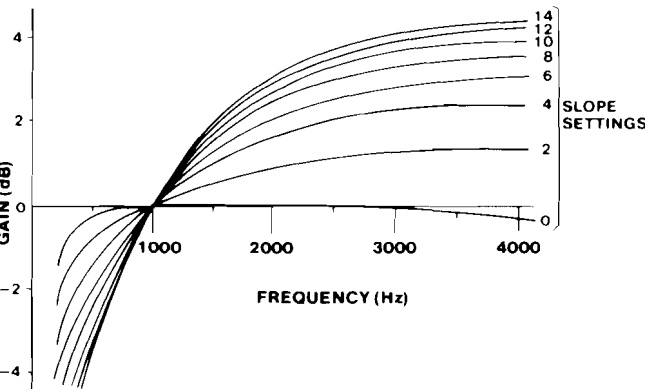
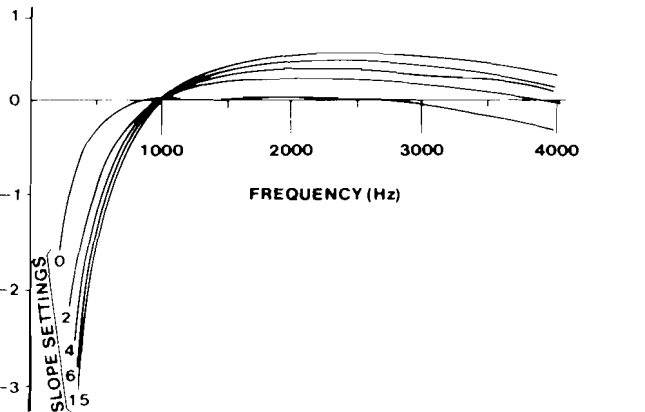

figure 5. Typical response curves for receive equalizer in slope mode, nonloaded cable
figure 6. Typical response curves for receive equalizer in slope mode, loaded cable
2.09 Figures 5 and 6 show typical response curves for the 309B-equivalent equalizer in the slope mode. Figure 5 shows the curves for nonloaded cable, while figure 6 shows the curves for loaded cable. For comparison purposes, all frequency-response curves in both figures are drawn with the same 0dB-gain reference point (1004Hz).